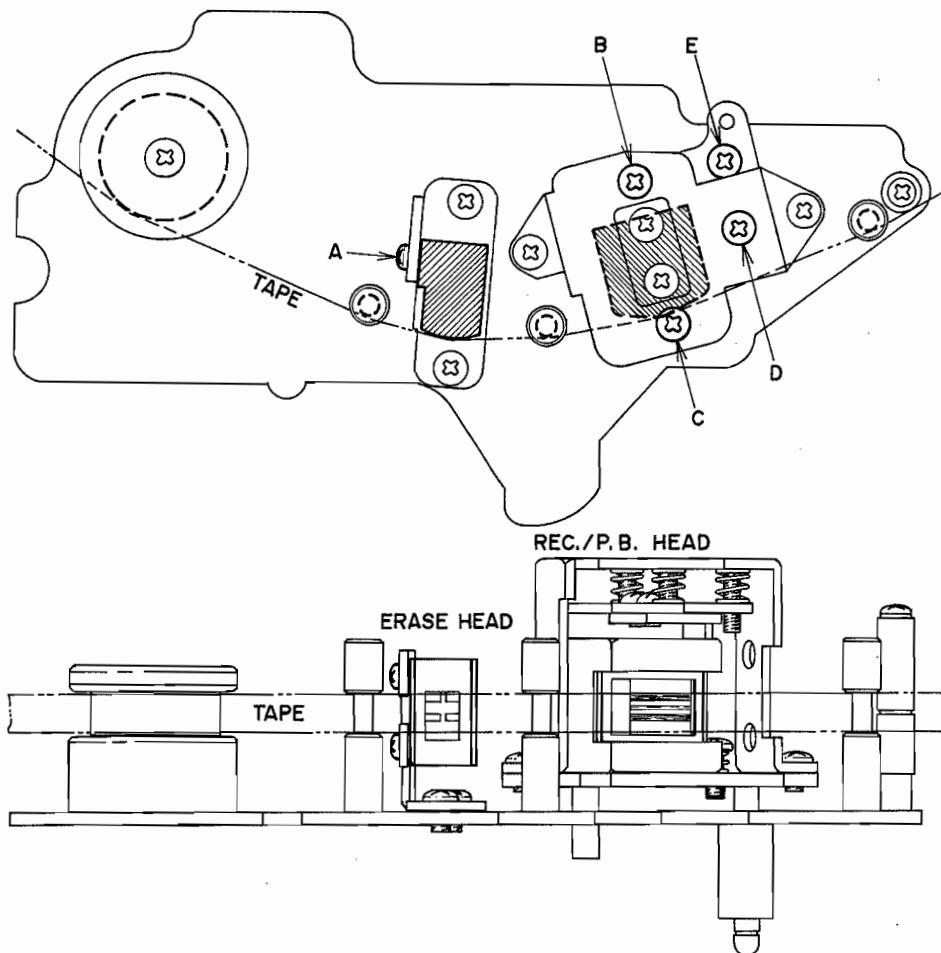

Fig. 18
At playback mode, loosen Screws (A) shown in Fig. 18 and adjust head height so that the upper edge of the tape is about 0.1 mm lower than the upper edge of the left channel erase head core.
- At Forward Playback mode, adjust REC/P.B. Head height by turning screws (B)(C) and (D) shown in Fig. 18 to left and right until the upper edge of the tape is the same height as the upper edge of the left channel REC/P.B. Head core.
- At Reverse Playback mode, adjust REC/P.B. Head height by turning Screw (E) shown in Fig. 18 to left and right until the lower edge of the tape is the same height as the lower edge of the right channel REC/P.B. Head core.
5) At Forward Playback mode, turn Azimuth Alignment Screw (D), shown in Fig. 18 to obtain maximum line output level on both channels.
6) After the adjustment in Item 5) above has been completed, loosen Screws (F)(G) shown in Fig. 18 and move the head gap side of the REC/P.B. Head to left and right. When tension is applied to the supply reel side and the line output level of both channels do not fluctuate, (maximum allowable fluctuation within +0.5/-0 dB) fix Screws (F)(G) to maintain this condition.